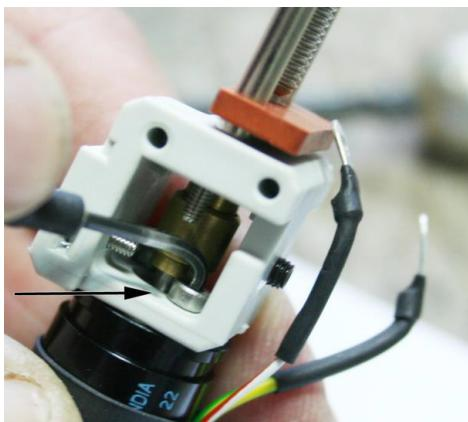

Figure 6-36. Releasing the Motor from the Block
- Secure the two M2x5 cylindrical head cap screws (Allen screws) to connect the motor to the block (see Figure 6-36).